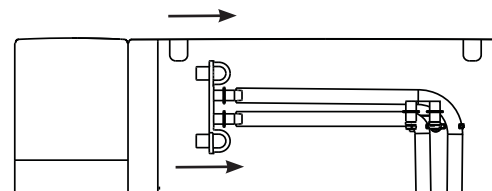

Figure 11
- Replace drain tubes on back. See figure 11.